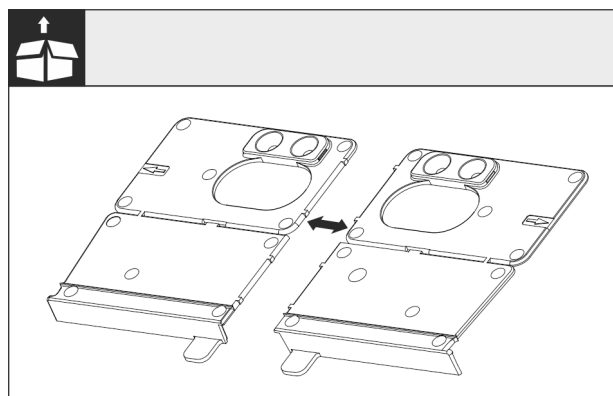

Fig. 27
► Separate the floor mounting bracket Fig. 27 () at the perforation.